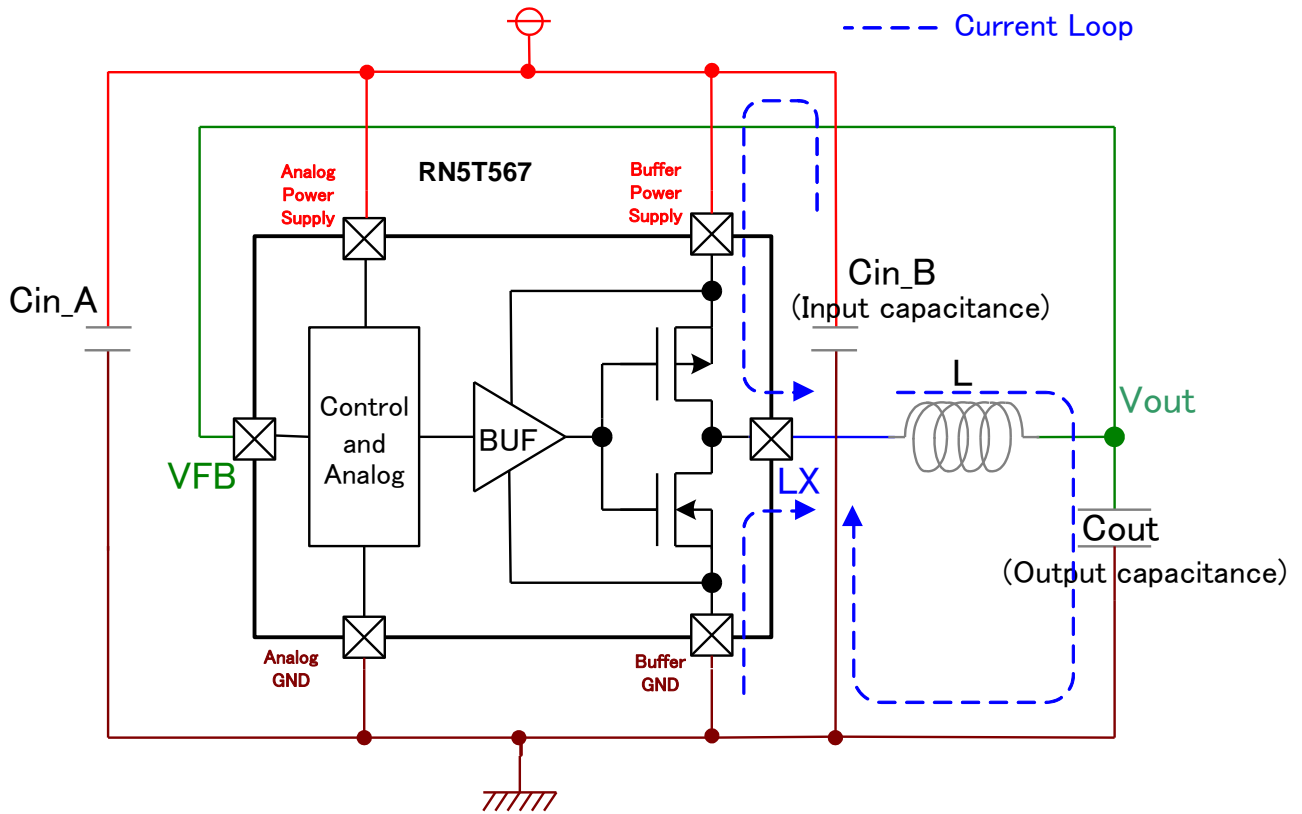
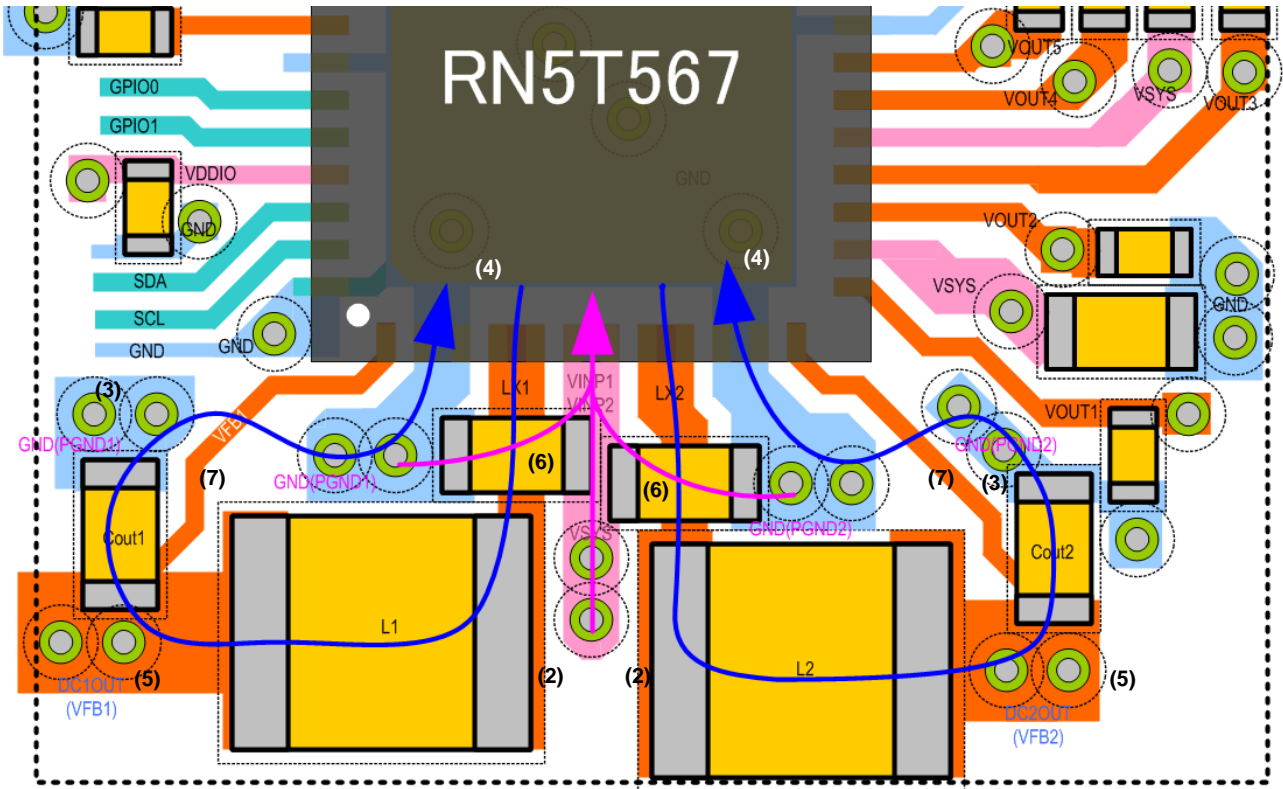

Fig. 1-1: Simplified Schematic for DCDC1, DCDC2, DCDC3 and DCDC4
Fig. 1-2: Example of DCDC Block Board Pattern (Top Layer)
- (1) Place the parts to minimize the switching current loop (Figure 1-1: Blue line, Figure 1-2: Blue line and purple line).
- (2) Route the LX line as short and wide as possible between RN5T567 and an inductor, and prohibit adding other redundant lines on it.
- (3) Connect the ground line of “Cout” directly to the internal ground plane with multiple vias, in order to reduce impedance as small as possible. (Target: 50mΩ or less)
- (4) Connects TABPAD* of RN5T567 to ground plane with low impedance.
- (5) Pull out the output of DCDC from near not “L” but “Cout”.
- (6) Place “Cin” as close as possible to RN5T567. (Higher priority level is “Cin” < L < “Cout” in the close distance order with RN5T567.)
- (7) Prohibit routing the VFB line which goes back to the RN5T567 with parallel to noise source line as LX, and if possible it's preferable to route the VFB line in the different layer from noise source. In addition, it should not pass under the Inductors.